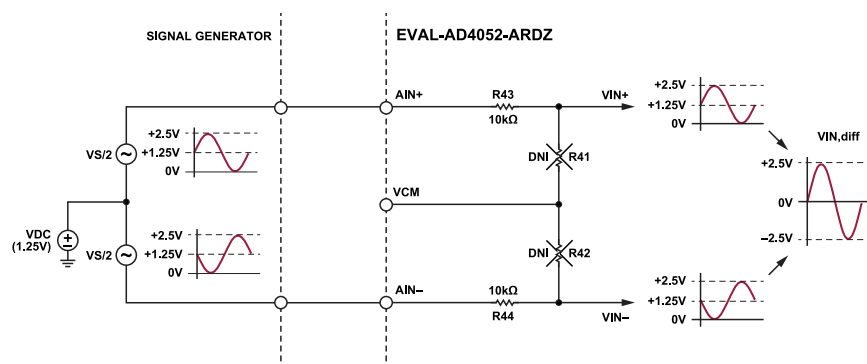

Figure 16. Biased Differential Signal Generator Example
- For signal generators with differential outputs that provide their own DC offset, the VCM input can be left disconnected. In the factory default configuration, the R41 and R42 resistors that are used with the VCM input will attenuate the differential input signal by half. It is recommended to disconnect R41 and R42 when using these types of signal generators, as shown in Figure 16. $V_{in, diff}$ is 2.5 V peak or 5 V p-p, and VCM is 1.25 V DC.